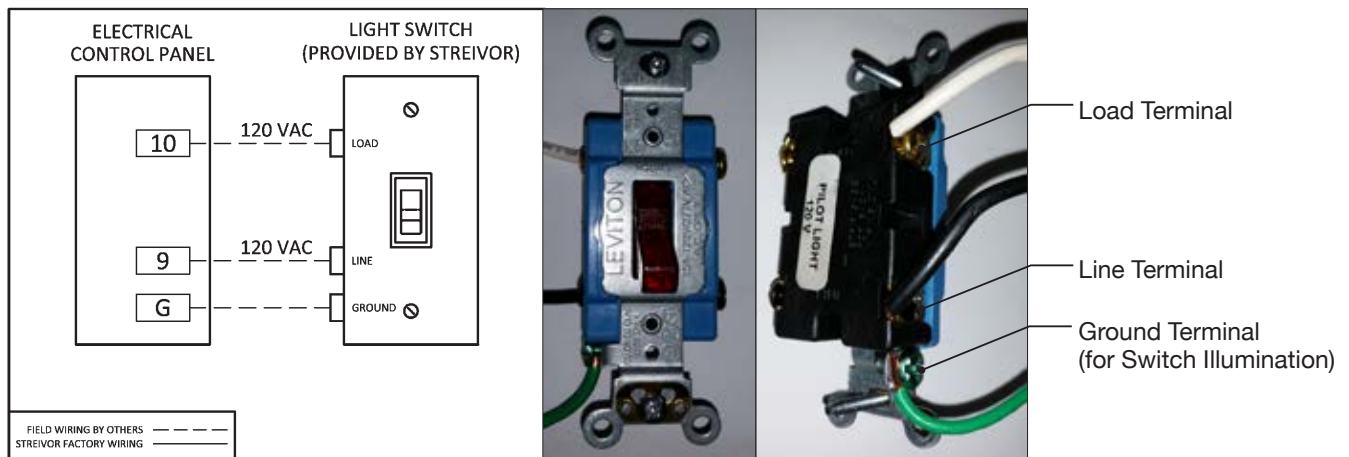

FIGURE 5B: Light Switch Wiring*
- Connect 120 VAC from terminal block 9 in the ECP to the line terminal of the light switch (Figure 5B).
- Connect the load terminal of the light switch to terminal block 10 in the ECP (Figure 5B).
- Connect the green terminal on the light switch to *ground* in the ECP to allow the switch to illuminate when turned on (Figure 5B).